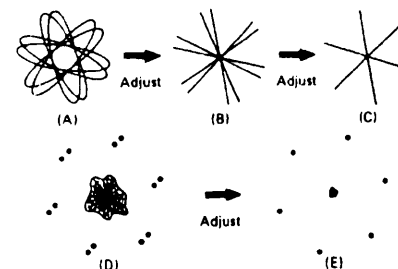

Fig 1.
- 2: Short the C317 capacitor with a jumper wire and connect pin 24 and 26 of IC201 with 5.6kW resistor. See Lissajous' fig. 1.
- 4: adjust the DL Amp VR so that the figure is altered to (B) from (A).
- 5: Adjust the DL P Transf (T303) so that the figure is altered to (C) from (B).
- 8: Then adjust the Discri Transf (T302A: Burst cleaning) so that the figure is minimised to (E) from (D).